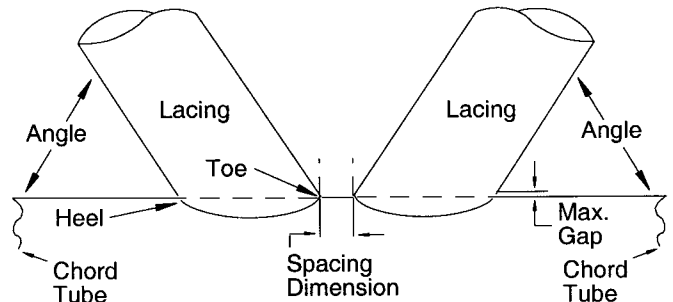

Figure 1
6.3 Determine the position of the replacement lacing by measuring the existing good lacing junctions (see Figure 1) and locate the replacement lacing accordingly. Maximum allowable gap 1/16" (1.6mm) per end. Weld size must be increased equal to gap.